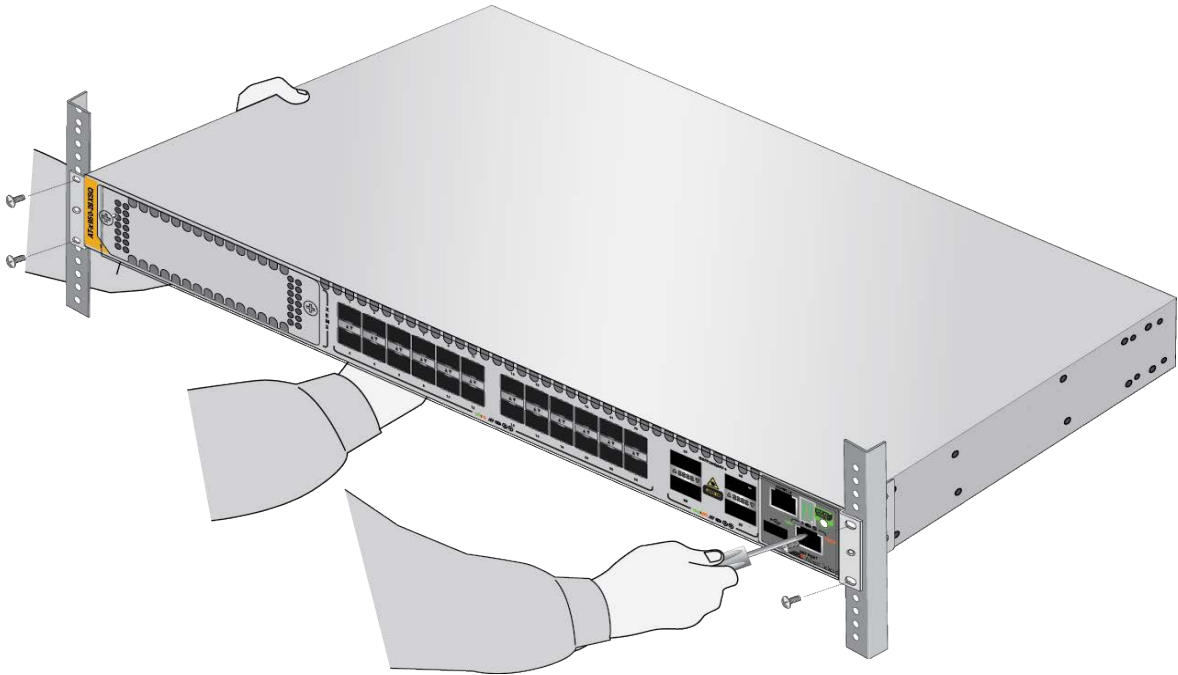

Figure 91. Installing the Switch in an Equipment Rack
4. Have another person hold the switch in the equipment rack while you secure it using standard equipment rack screws (not provided). Refer to Figure 91.